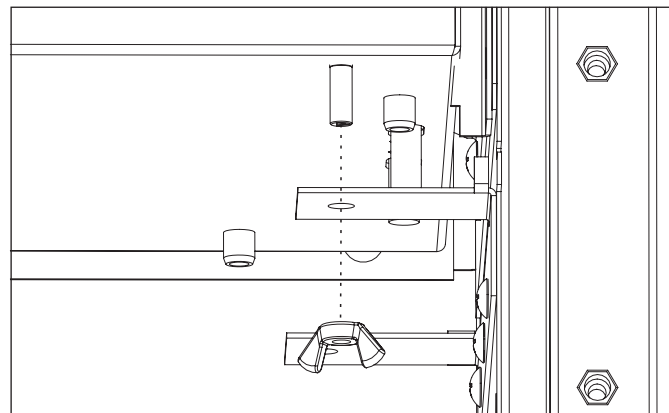

FIG 34 Securing the burner bed
5. Remove the 2 M5 wing nuts from under the burner. Lift the burner assembly upwards and carefully remove from the burner chamber. Refer to FIG 34.